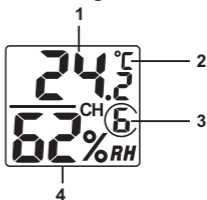

Figure 3
7. Verify the correct channel number (CH) and temperature units of measure (°F vs. °C) are on the display, as shown in **Figure 3**.